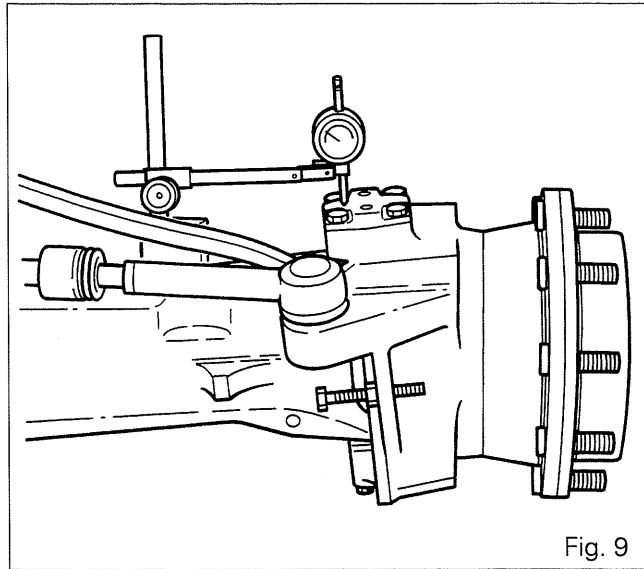

Fig. 9
- 69. Using a dial gauge, measure the axial play with a lever inserted between the axle housing and the swivel housing (Fig. 9).
- 70. Remove any play found during the above operation using a pack of shims (3) of corresponding thickness. To obtain P1, add supplementary shims up to a thickness of 0.15 to 0.25 (where 0.15 to 0.25 is the pre-load value).
- 71. Remove the bolts (1), the cover (2), the cup (4), coat the cone (5) with bearing grease. Refit the cup, the shims (3) selected during operation 70. Refit the cover. Tighten bolts (1) to 115 - 140 Nm.
- 72. Using a pump, grease the bearing (13) and (14).